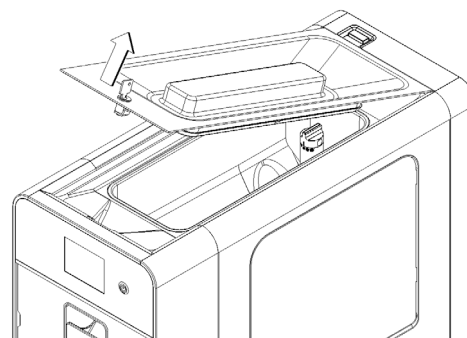

figure 17
- 1** Remove the upper cover. (see figure 17)